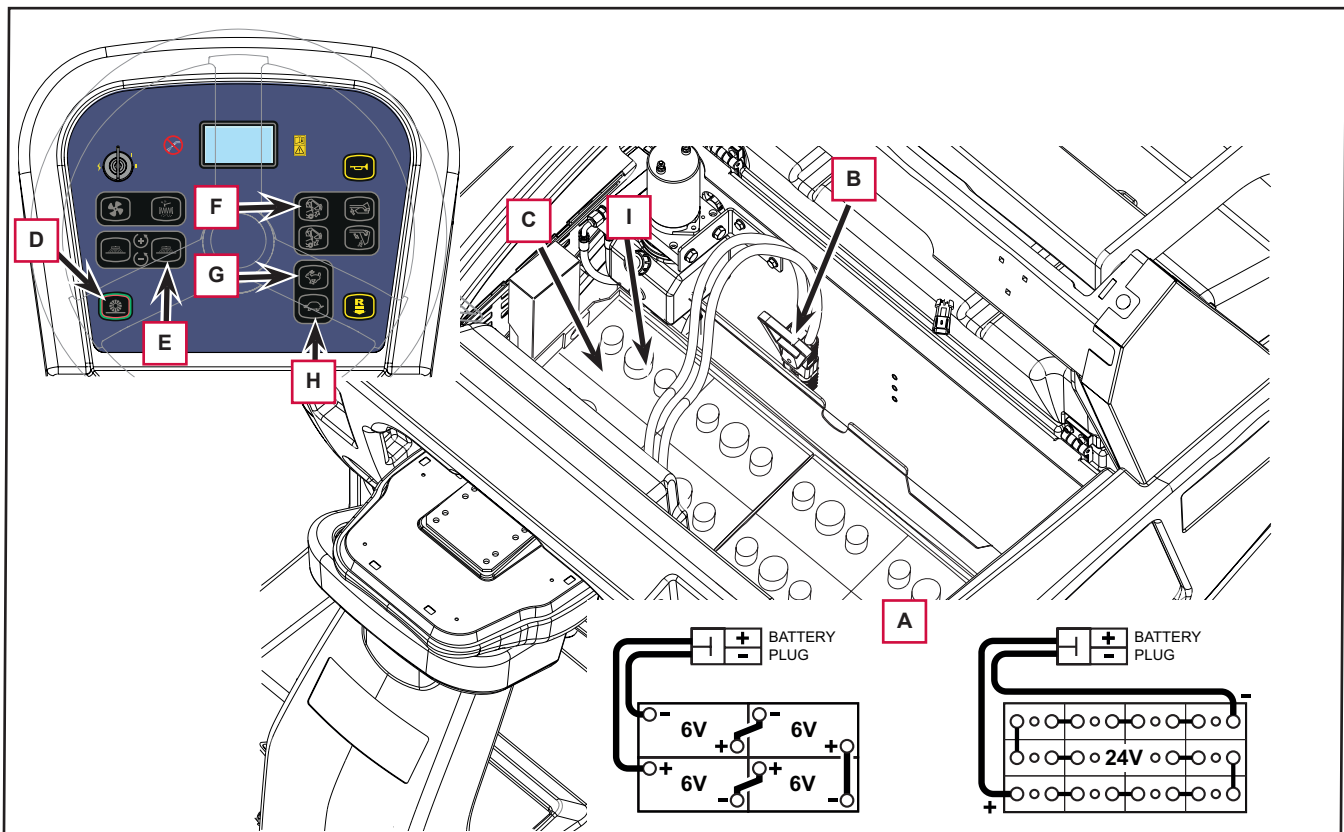

Figure 10
1. Start the machine by turning the ignition key to “I”, while holding down push-buttons (D, Figure 10) and (E).
2. Enter the “Parameters” menu by pressing the hopper lifting push-button (F).
3. Scroll through the parameters by repeatedly pressing the hopper lifting push-button (F) until you reach the “BATTERY TYPE” parameter
4. If necessary, change the setting using the hare (G) and tortoise (H) push-buttons.